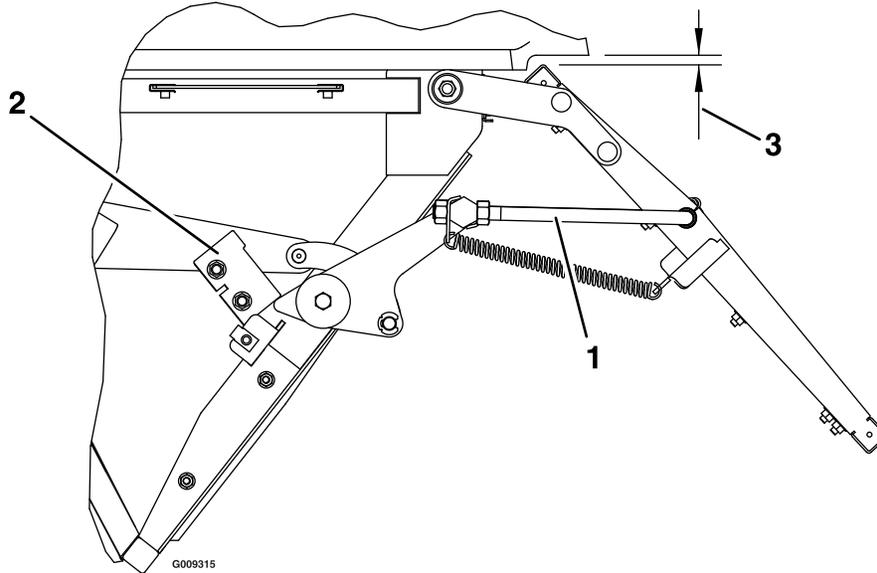

Figure 29
1. If the door does not close properly adjust the rods as shown in Figure 29.
Adjust the position of the stops (see Figure 29) so that the door link contacts them when the upper tube of the door frame is within 1/4 inch (6.35 mm) \pm 1/8 (3.2 mm) from the lower lip of the molded hood.